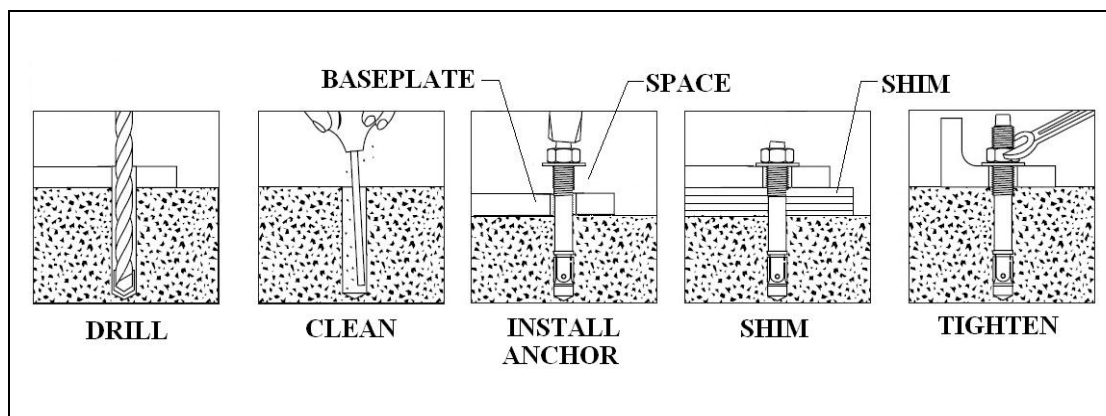

Figure 28. Anchor installation
1. Refer to **Figure 28** while reading through these instructions.